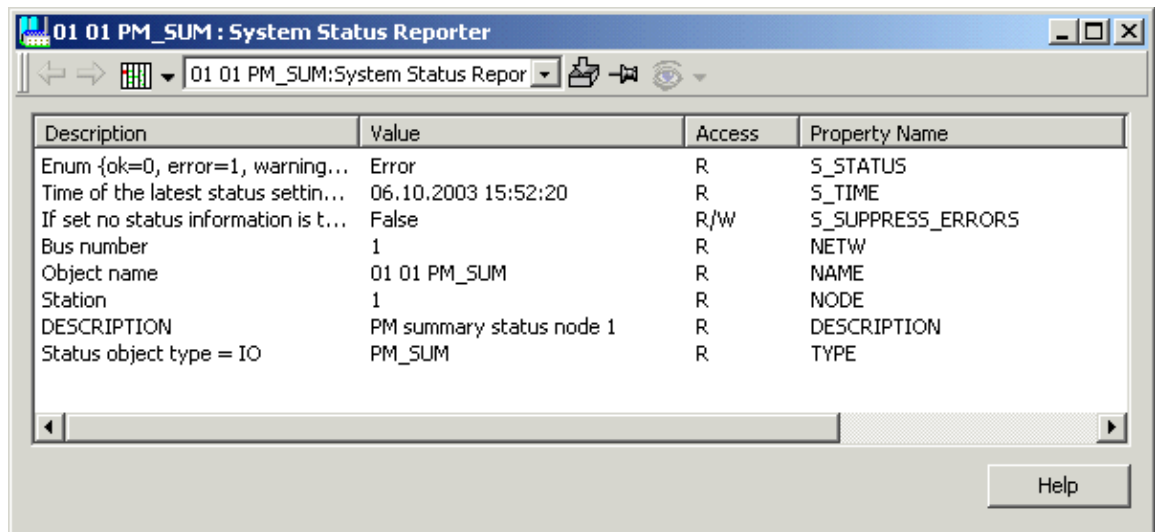

Figure 31. Detailed View for PM\_SUM object
- System Status Reporter (see Figure 31)
It is possible to get a detailed view of the properties at the summary objects CI\_SUM, IO and PM\_SUM if the Details column is marked with an X. To present a detailed view select it in the System Status Viewer and double-click on the line (see Figure 31).